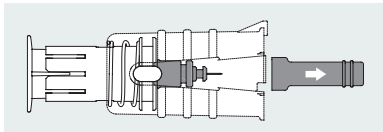

Figure 55
- 3** Remove the protective sleeve as shown in Figure 55.